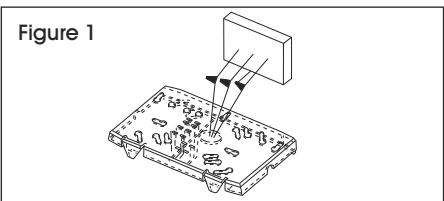

Figure 1
3. Connect to AC power. (See Figure 1)
3. Branchez à l'alimentation CA. (Voir Figure 1)